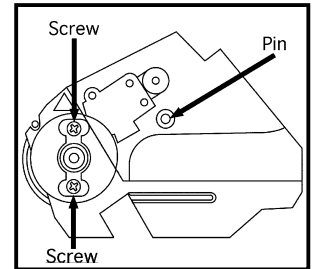

Figure 1
1. Push in locking pins (Figs. 1 & 2) with jewelers screwdriver until top cover springs open.
2. Remove the OPC hub screws (Figs. 1 & 2) and remove hubs.